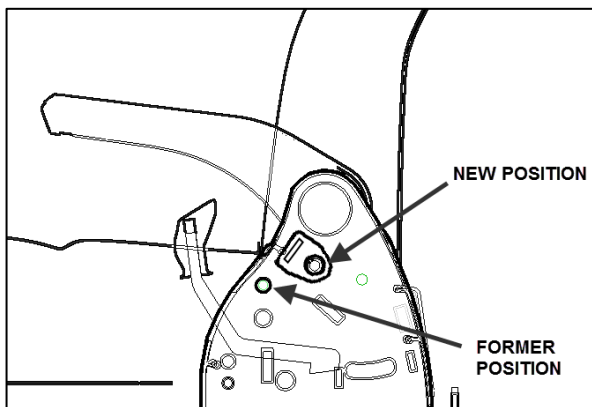

Figure 10: New position of belt anchor.
7. Re-install belt anchor in new location as shown, away from pivot. (Fig 10 & 11)